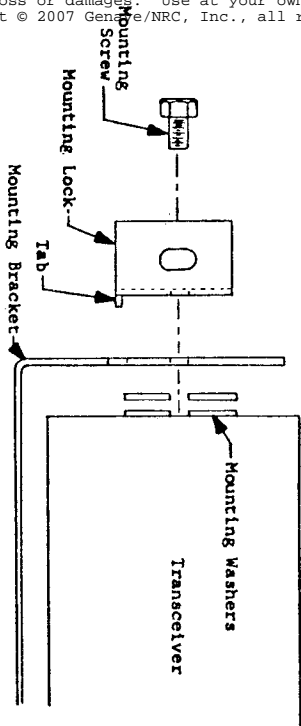

Figure 1
3. Secure the mounting lock to the unit using one of the hex head mounting screws supplied. Be sure that the screw passes through the correct hole in the mounting bracket (See Figure 1).